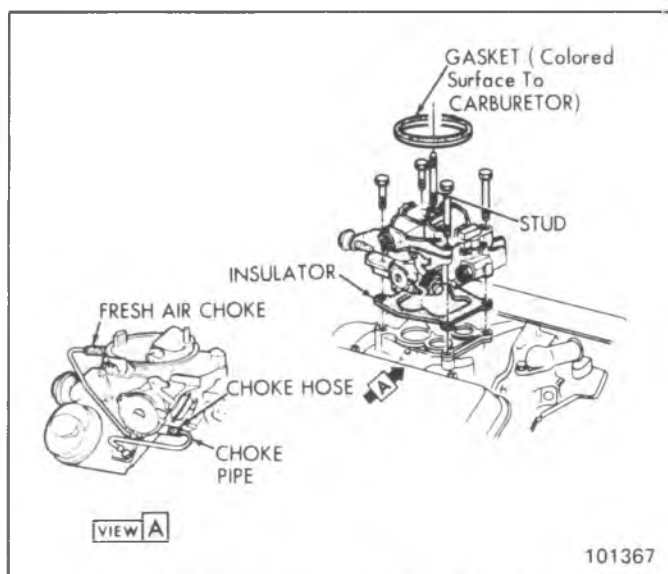

Fig. 6C4-11--Carburetor and Choke Pipes-M4MC
4. Disconnect choke system (Fig. 6C4-11).
The procedures that follow apply to a complete carburetor overhaul with the carburetor removed from the engine. Refer to Figure 6C4-12 for part identification during disassembly and assembly of carburetor components. In many cases, service adjustmentss of individual systems may be completed without removing the carburetor from the engine (refer to "On-Vehicle Service").